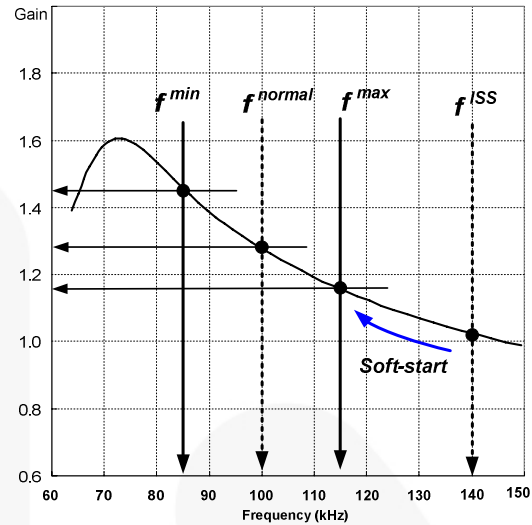
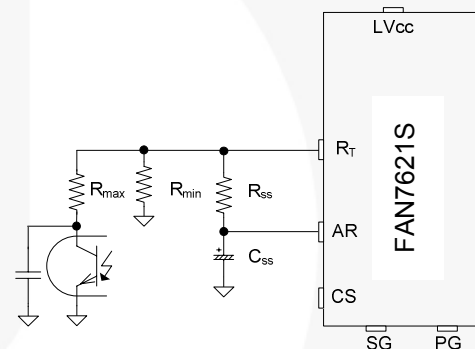

Figure 17. Resonant Converter Typical Gain Curve
Figure 18. Frequency Control Circuit
**3. Frequency Setting:** Figure 17 shows the typical voltage gain curve of a resonant converter, where the gain is inversely proportional to the switching frequency in the ZVS region. The output voltage can be regulated by modulating the switching frequency. Figure 18 shows the typical circuit configuration for  $R_T$  pin, where the opto-coupler transistor is connected to the  $R_T$  pin to modulate the switching frequency.
To prevent excessive inrush current and overshoot of output voltage during startup, increase the voltage gain of the resonant converter progressively. Since the voltage gain of the resonant converter is inversely proportional to the switching frequency, the soft-start is implemented by sweeping down the switching frequency from an initial high frequency ( $f^{SS}$ ) until the output voltage is established. The soft-start circuit is made by connecting R-C series network on the  $R_T$  pin, as shown in Figure 18. FAN7621S also has an internal soft-start of 3ms to reduce the current overshoot during the initial cycles, which adds 40kHz to the initial frequency of the external soft-start circuit, as shown in Figure 19. The initial frequency of the soft-start is given as: